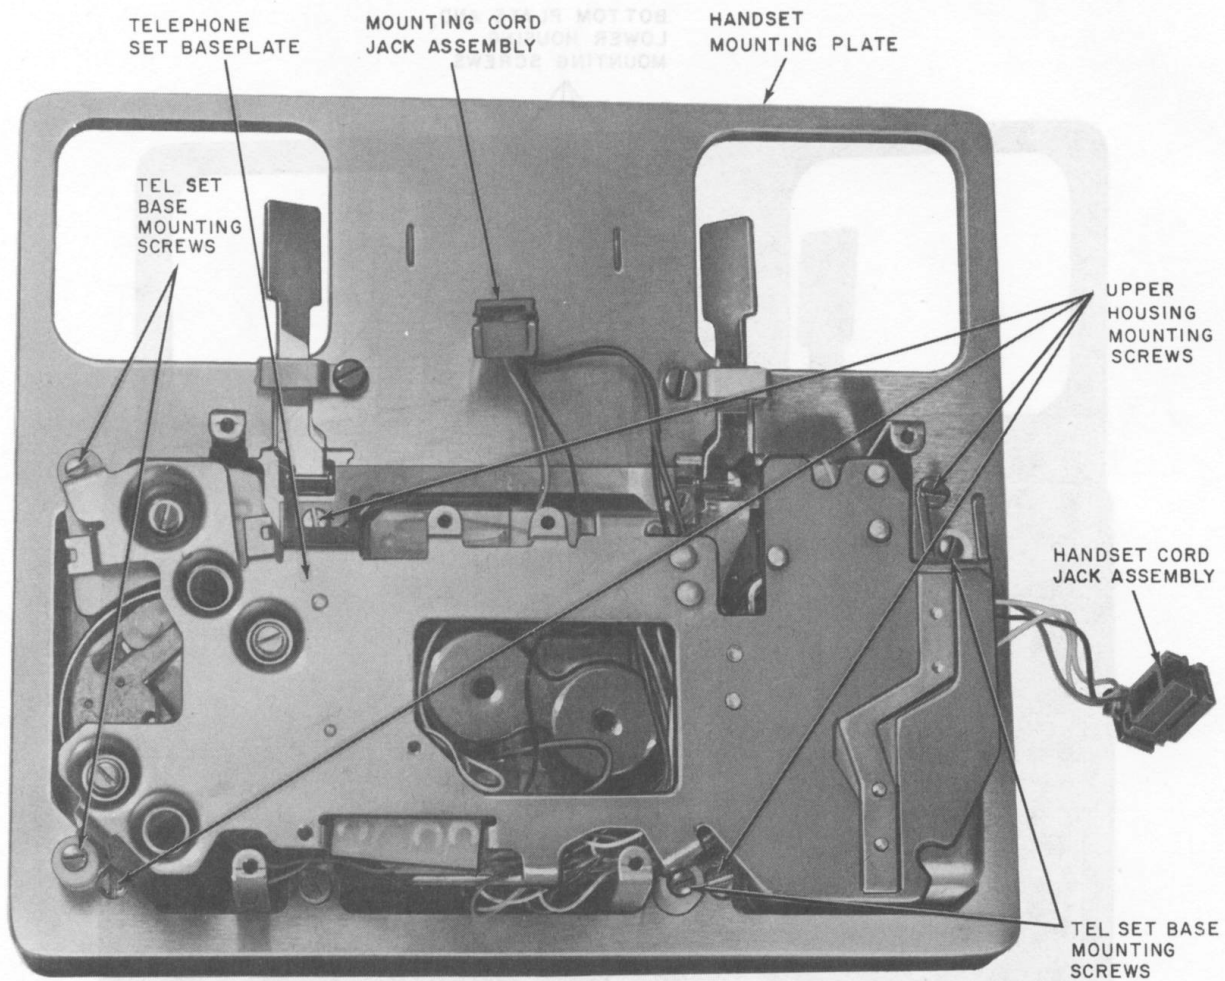

Fig. 11—2930A Telephone Set with Lower Housing Removed
- (3) Remove bottom plate and lower housing.
- (4) Remove handset cord jack and mounting cord jack from brackets by lifting off (Fig. 11).
- (5) Remove four upper housing mounting screws (Fig. 11) which secure upper housing and remove upper housing.
- (6) Turn handset mounting plate and telephone set base over and remove hair pin clip and connecting pin from switchhook linkage.
- (7) Remove four telephone set base mounting screws (Fig. 11) and remove base.
- (8) Reassemble upper housing to handset mounting plate (Fig. 11).